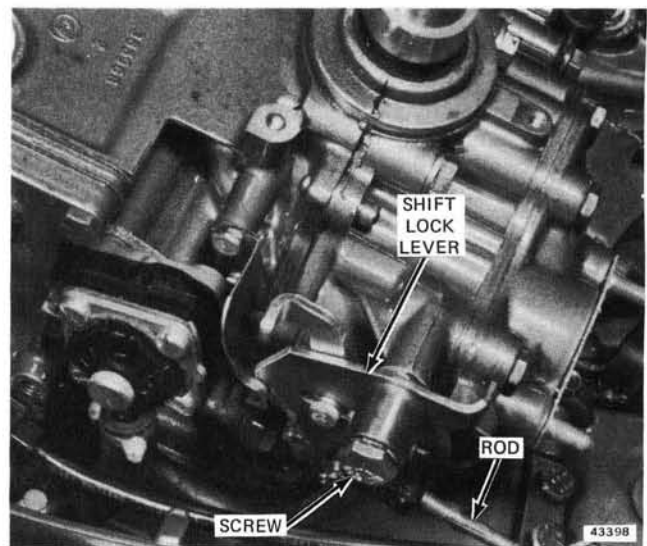

Figure 5-5. Shift Lock Lever Screw
b. Remove shift lock lever screw and swing lever and rod out of way. See Figure 5-5. Remove starter interlock cam screw.